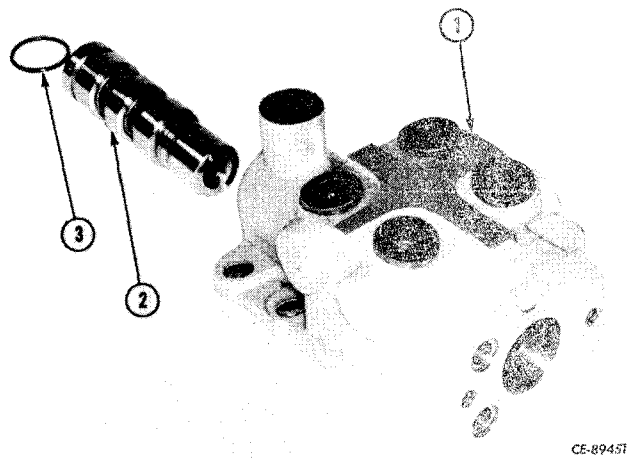

Figure 8-24
Install new "O" ring (3, Fig. 8-24) on spool (2) and insert spool in housing (1). Install carefully; do not jam in housing bore.